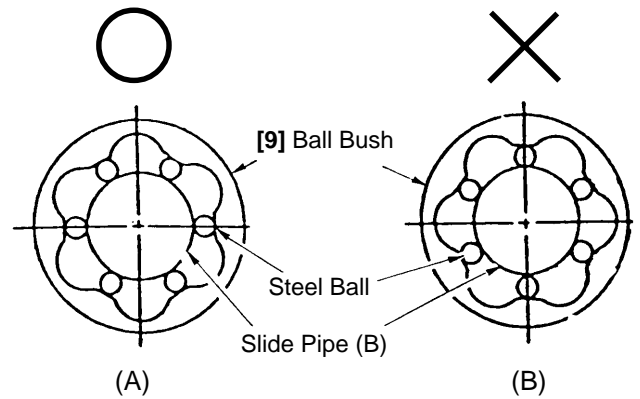

Fig. 6
When assembling the Ball Bush [9] into Holder (A) [11], insert it so that the steel balls within the Ball Bush [9] are positioned as illustrated on side (A) in Fig. 6. Visual alignment of the steel balls during assembly is acceptable. As shown in Fig. 6, the load is more evenly distributed when the steel balls are aligned as in side (A). The side (A) alignment is approximately 30 % more efficient than the alignment illustrated in side (B).